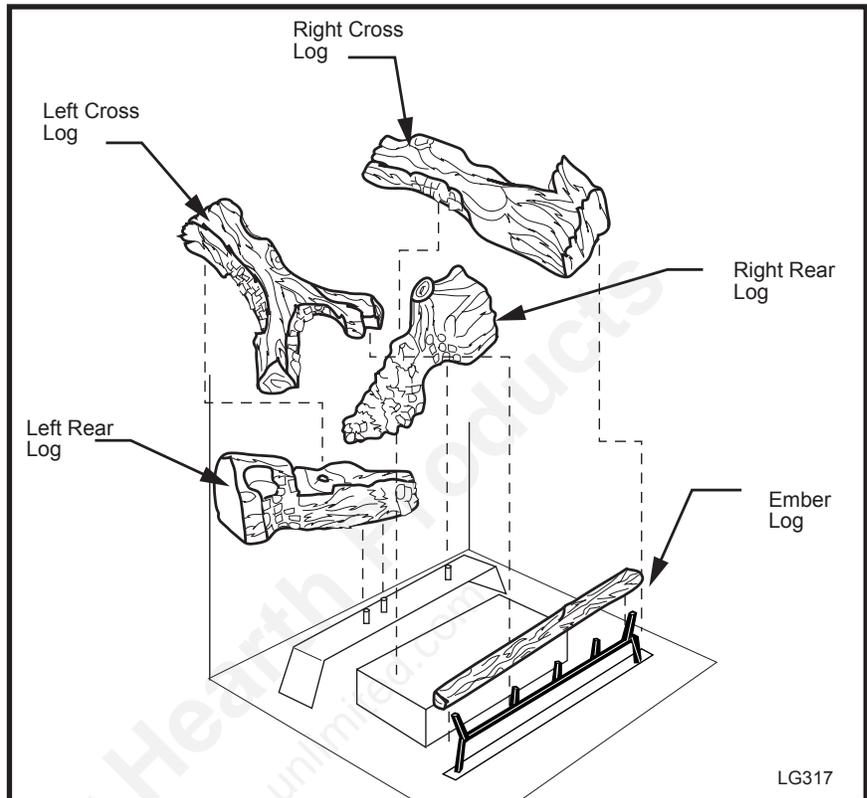

Fig. 13 ODGR400 log placement.
2. Place left rear log on rear log support. Ensure that log is firmly positioned and there is no side-to-side movement. (Figs. 13 & 14)
3. Carefully place Ember Log between grate and burner. (Figs. 13 & 14)
5. Place the top logs onto the locator notches. Ensure the logs are secure. (Fig. 13 & 14)